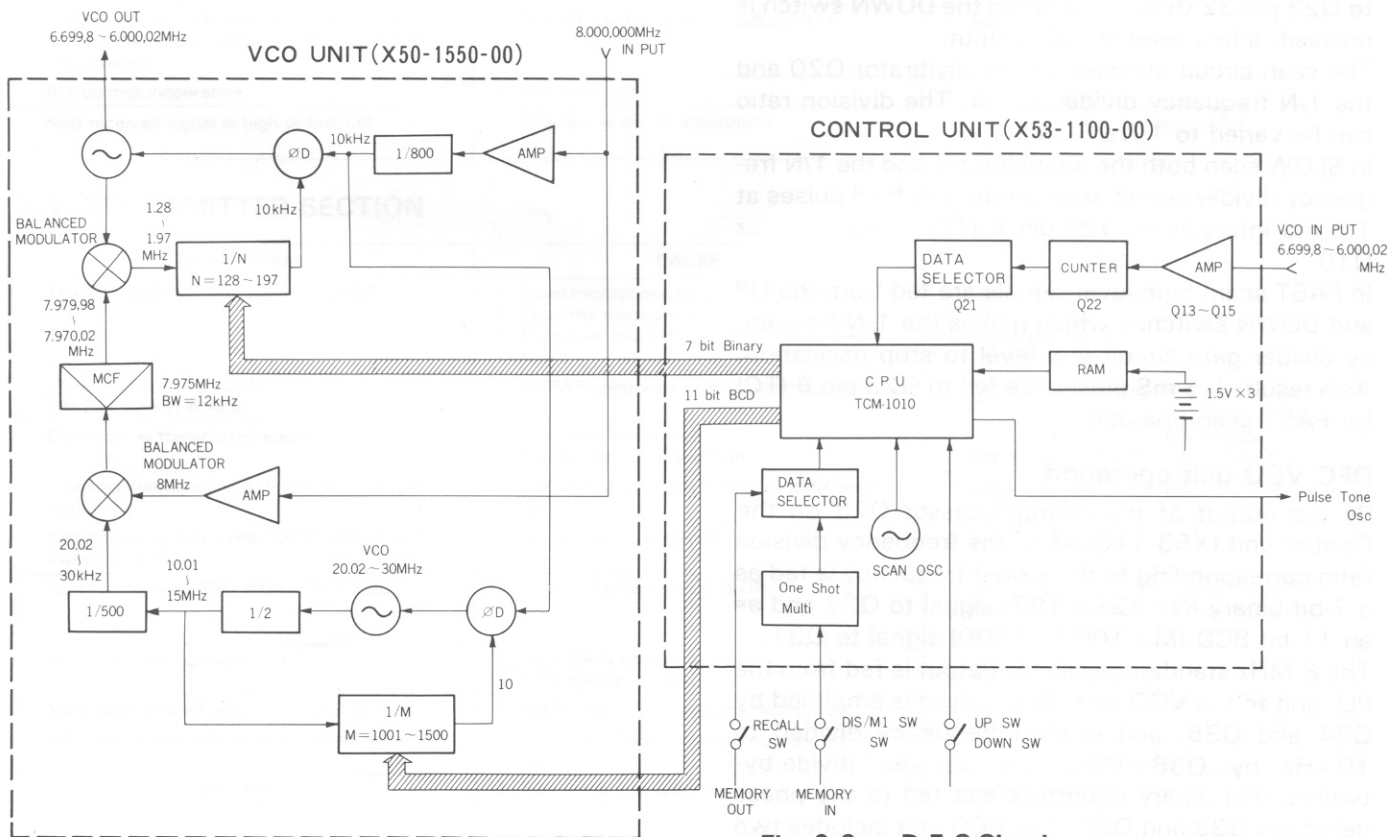

Fig. 6-6 D.F.C. Circuit
6.11 DFC OPERATION (See Fig. 6-6) (TS-180S with DFC only)